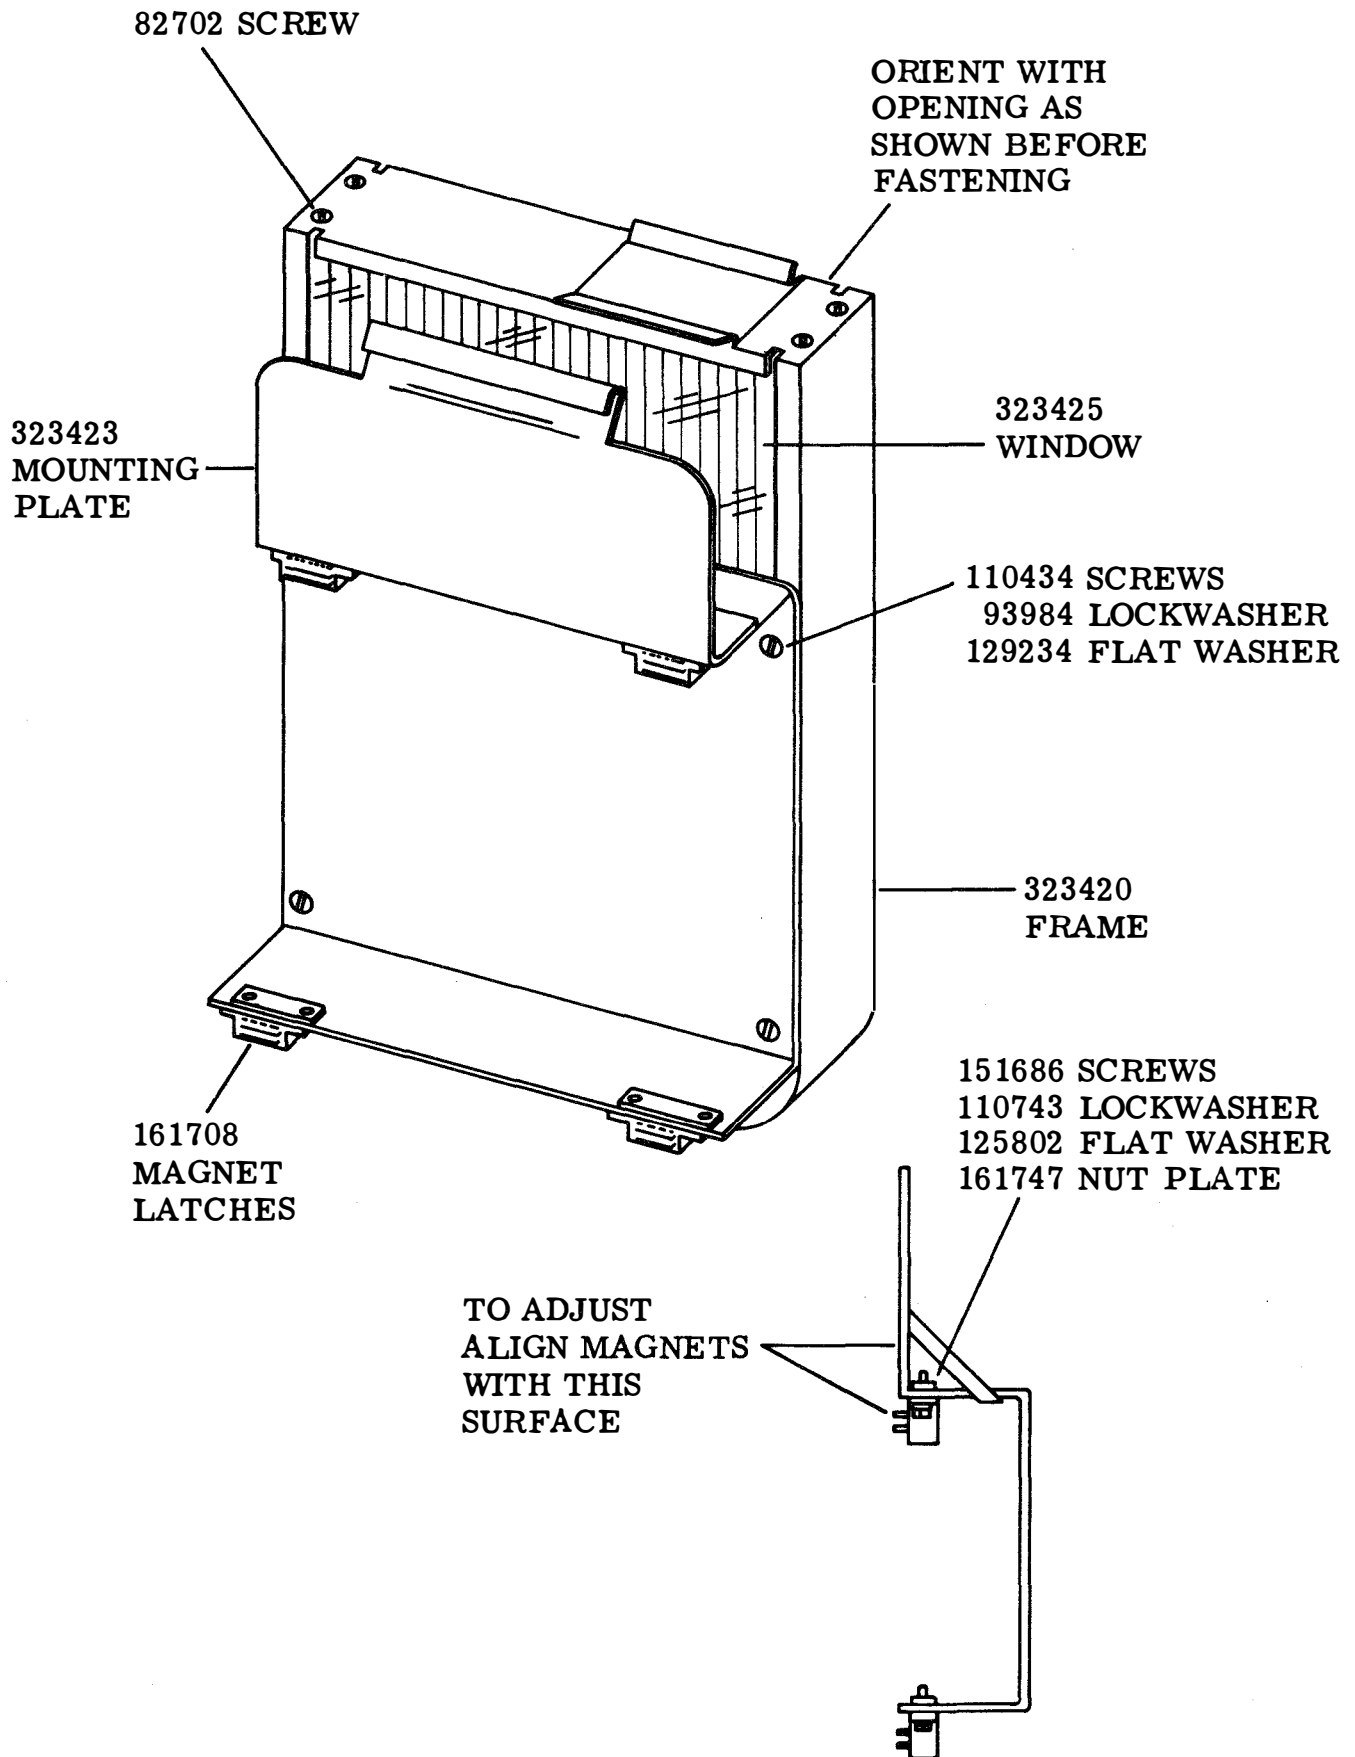

Figure 1
- 2.01 Mount the 161708 magnet latches in the holes provided and secure with 151686 screws, 110743 lockwashers, 125802 flat washers, and 161747 nut plate. (See Figure 1.)
Note: Be certain the opening in the retaining plate is to the right as you face the four mounting holes in the frame before assembling the mounting bracket to the tape bin assembly. (See Figure 1.)
- 2.08 Perform a preliminary adjustment to the magnet latches aligning the end of the magnet area with the edge of the mounting bracket. (See Figure 1.) Make additional adjustment as necessary.